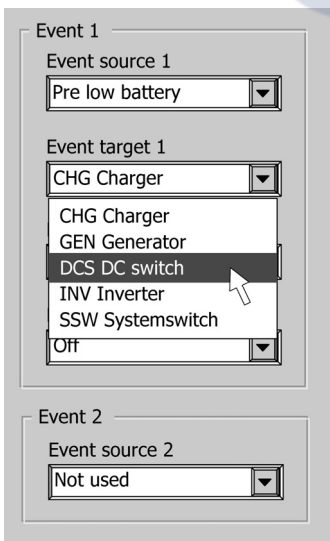

Figure 15
- Select the name of the device that should take action in case of this event: *Event target*. (Example: DC switch) (figure 15).